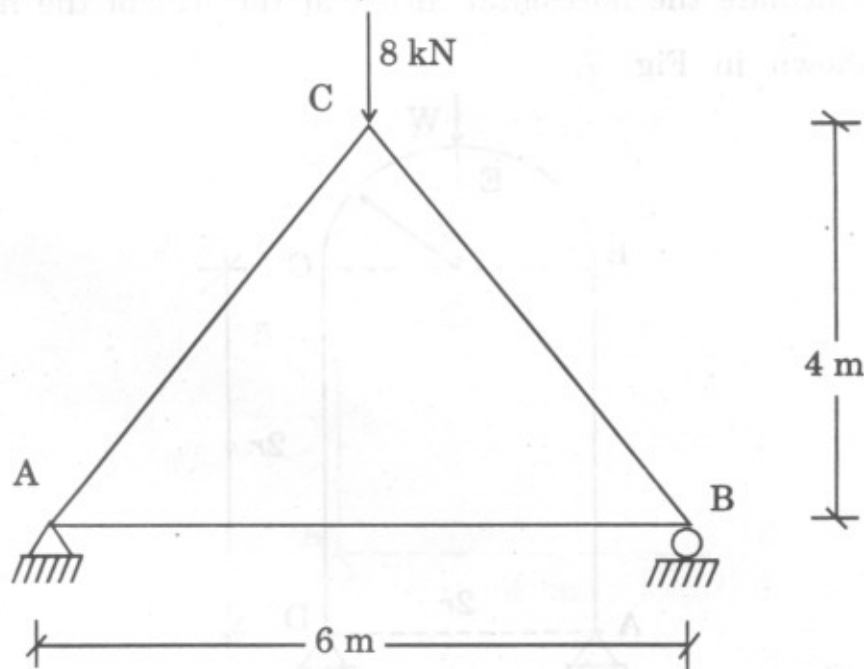

Fig. 5
- (B) For the truss shown in Fig. 5, calculate the total strain energy and deflection at point C. Take cross-sectional area of tension members =  $60 \text{ mm}^2$ , compression members =  $200 \text{ mm}^2$  and modulus of elasticity 'E' =  $200 \text{ GPa}$ . [6]